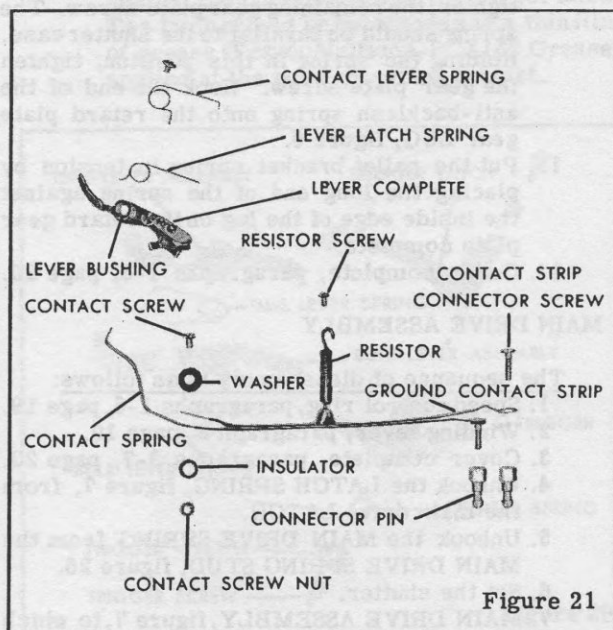

Figure 21
3. Trigger latch, with the long bent end of the latch contacting the inner edge of the contact LEVER COMPLETE, figure 21. Be sure the latch does not bind.
4. CONNECTOR PINS, figure 21, using Tool No. 635.
8. Holding the CONTACT SCREW, figure 21, with Tool No. 262, remove the CONTACT SCREW NUT, using Tool No. 503L. Remove the contact screw.
1. If a new contact lever is to be used, place the contact LEVER LATCH SPRING, figure 21, on the contact LEVER BUSHING, with the long end of the spring at the bottom. Lift the long end of the spring and rest it against the outside edge of the spring lug on the contact lever latch. Form the short end
1. Place the contact LEVER LATCH SPRING, figure 21, on the contact LEVER BUSHING, with the long end of the spring at the bottom and facing the shutter blades. Lift the long end of the spring and rest it against the outside edge of the spring lug on the contact lever latch. Form the short end of the spring around the vertical part of the contact lever tail. Then place the CONTACT LEVER SPRING on the contact lever bushing. Bend the last 1/8 inch of the long end of the spring clockwise, with respect to the bushing, at least 15 degrees.